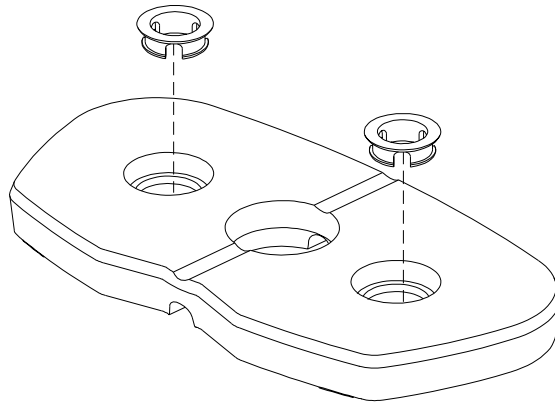

FIGURE 2
- CHECK THAT THE HEADPLATE AND WEIGHT PLATES ARE ASSEMBLED AS SHOWN IN FIGURES 2 & 3